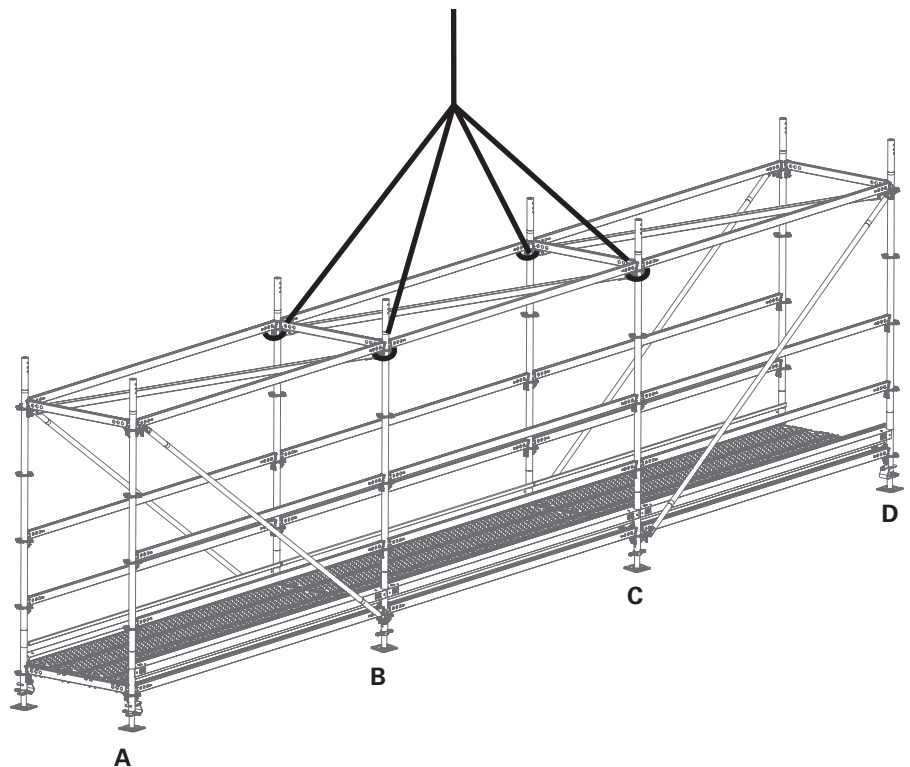

Fig. A2.02
1. Attach with textile lifting gear, e.g. round sling, beneath the uppermost rosettes of the centre frame columns (**B + C**). (Fig. A2.02)